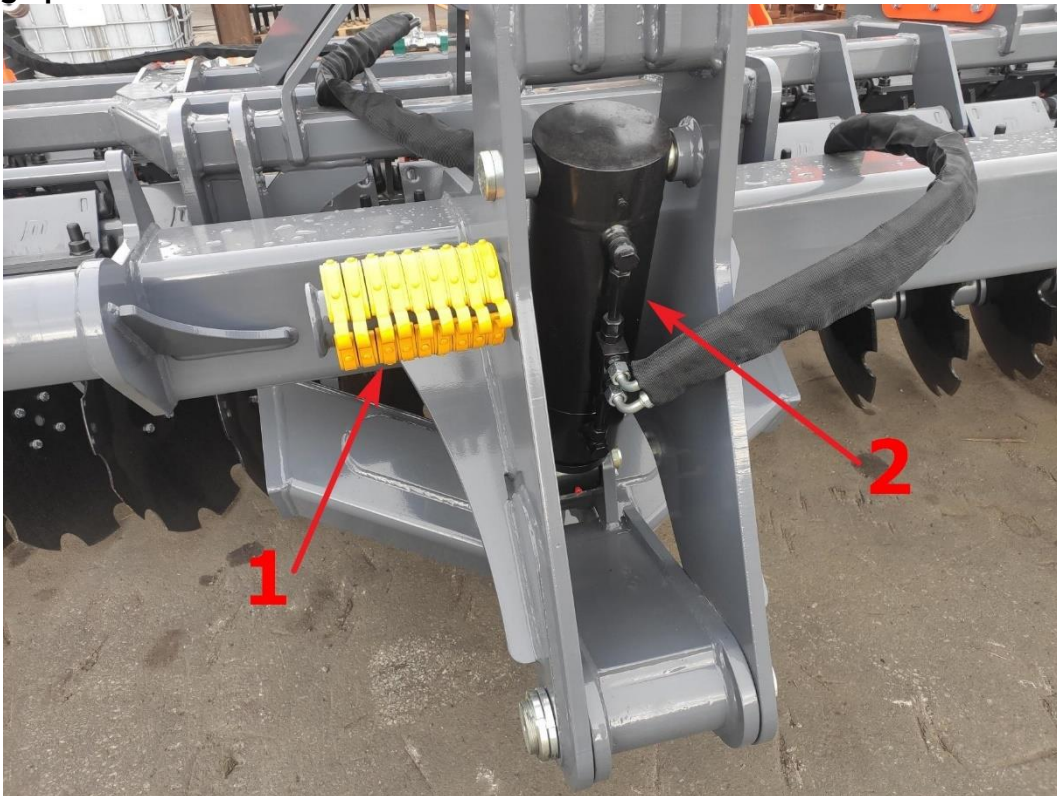

Figure 37 View of the machine wing hydraulic assembly; 1-safety clips, 2-actuator.
First of all, the appropriate working depth must be determined using the hydraulic actuators of the three-point linkage on which the disc harrows are suspended (item 1, fig. 37). There are special clips on the three-point frame designed to be fitted to the piston rod of the actuator to maintain the desired extension (item 2, fig. 37). As the actuator's extension is increased, its working depth is increased, and a decrease in extension results in a decrease in working depth. Clips (item 2, fig. 37), which are fitted to the piston rod of the actuator, are used to maintain the preset actuator extension.